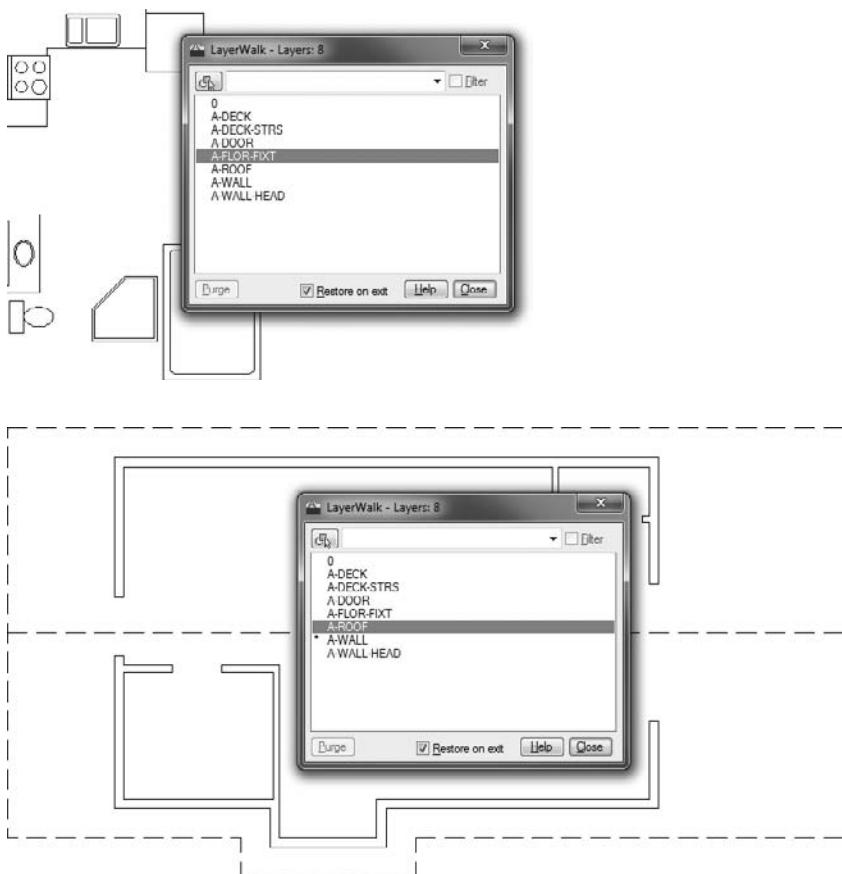

FIGURE 6.49 Displaying the contents of the A-FLOR-FIXT layer (top) and the A-WALL layer (bottom)
7. Select a layer other than layer 0, and the drawing area shows only the objects on that layer. Use the up and down arrows to “walk” through the drawing’s layers, verifying that the objects reside on the correct layers. Figure 6.49 shows the cabin drawing with the A-FLOR-FIXT layer selected (top).
8. If you double-click a layer name, that layer stays displayed even when it isn't highlighted and an asterisk appears next to the layer name. Figure 6.49 (bottom) shows the cabin drawing with the A-ROOF layer selected and the A-WALL layer locked on.